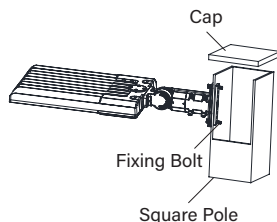

Figure 8
2. Secure the provided tenon to the pole using the installation bar and both rubber gaskets. (Figure 8) Open the cover to the slipfitter junction box area. Pull wires from the fixture and from source power, and connect properly. Close the junction box cover.